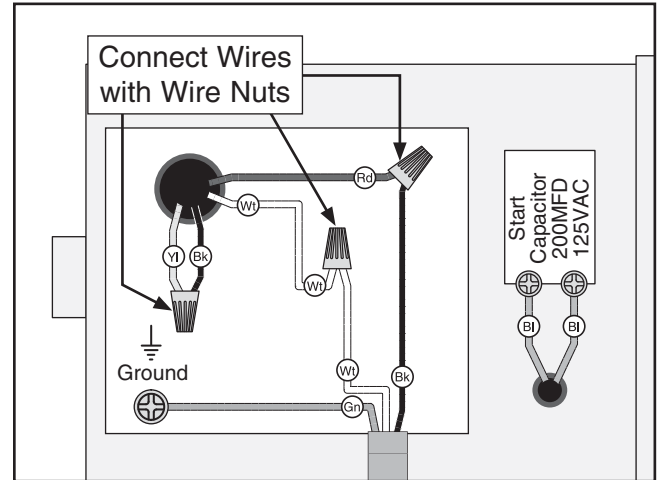

Figure 8. Motor rewired for 220V.
4. Use wire nuts to connect wires as indicated in **Figure 8**. Twist wire nuts onto their respective wires and wrap them with electrical tape so they will not come loose during operation.